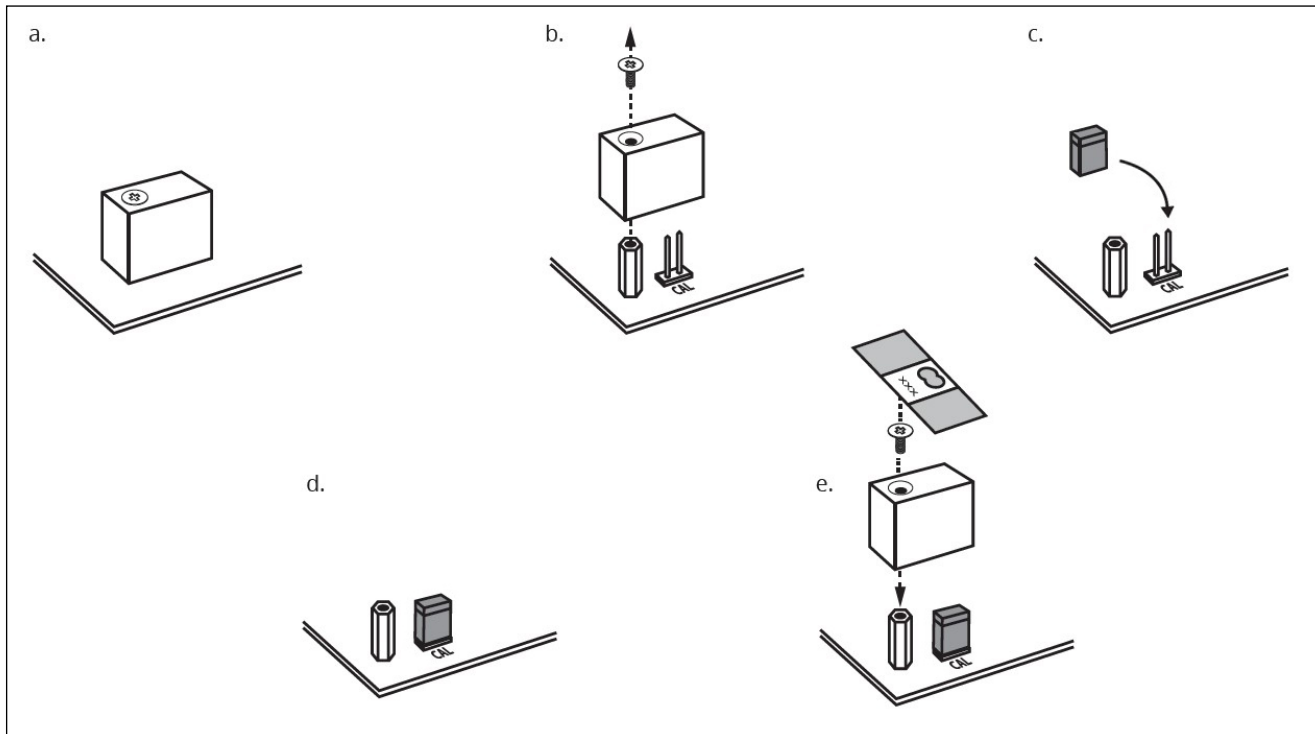

Figure 4-2. Sealing the CAL Jumper
**NOTE:** CAL jumper must be in place before sealing faceplate to prevent access to Setup mode at startup (Figure 4-2 on page 27).
Access to setup mode is typically allowed through pressing  momentarily during the power up sequence. In certain Legal for Trade applications it is necessary to restrict access to setup mode. The CAL jumper controls whether or not setup mode is accessible. If the CAL jumper is shorted with a jumper cap and sealed as in Figure 4-2, the indicator will not access setup mode. See Figure 2-8 on page 14 for the location of the CAL jumper on the CPU board.